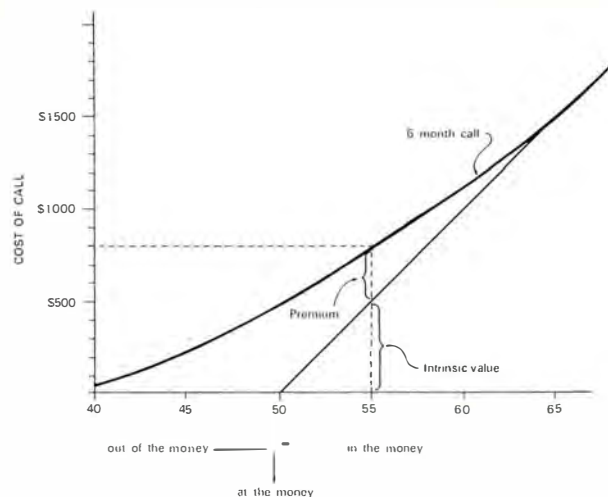

Figure 2. \$50 Strike Call — Prices vs Stock Price
2. **Intrinsic value** is the stock price minus the strike price and is always positive. The relationship of intrinsic value in the cost of a call can best be explained in Figure 2. For example, notice that when the stock price is \$55, the option cost is \$800. The *intrinsic value* is \$500 and the *premium* is \$300.